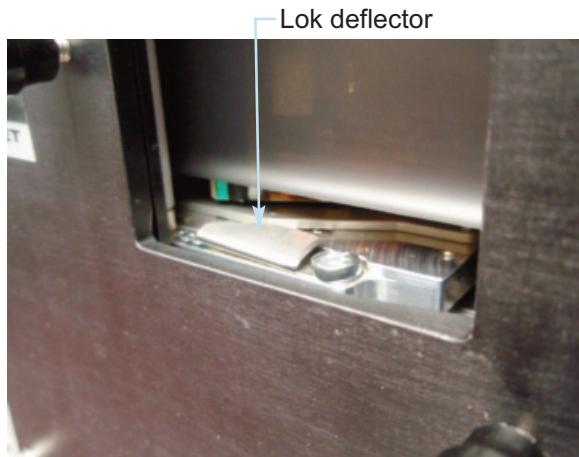

Figure 2.8
2. Install the lok deflector using the pan head screw supplied as shown in Figure 2.8.